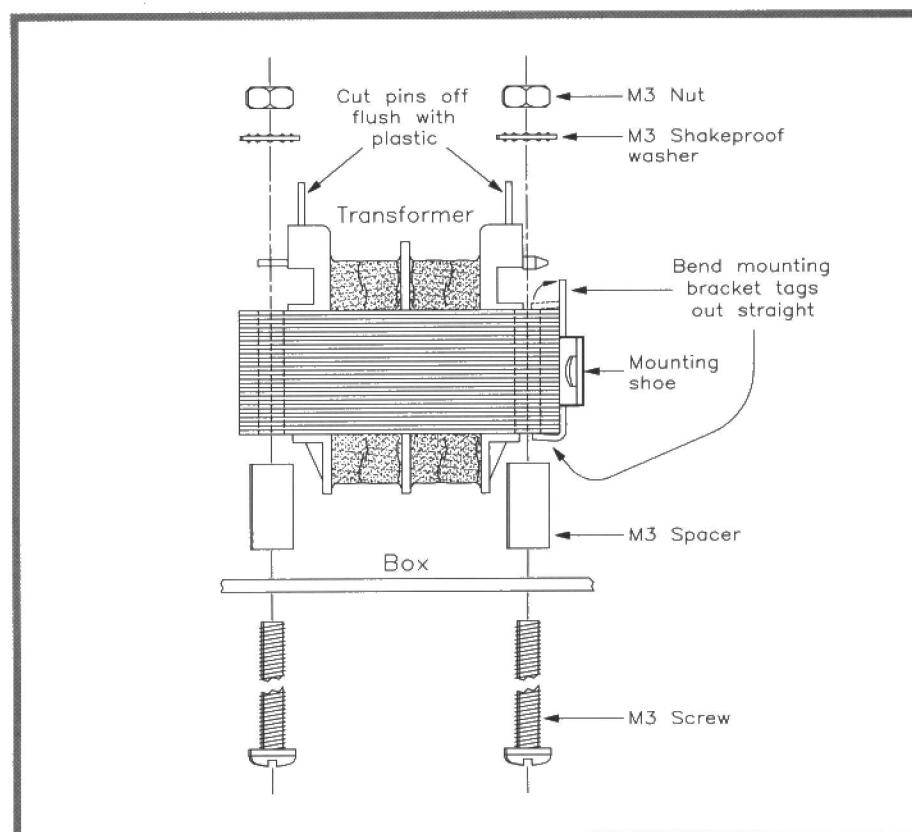

Figure 7. Fitting the mains transformer.
6. Fit the transformer to the chassis, using the two sets of 35mm M3 screws, 12mm spacers, shakeproof washers and nuts, as shown in Figure 7. If the supplied transformer is fitted with a mounting bracket, bend the tags away from the fixing hole (on either side of the transformer) to enable the hardware to be flush-mounted against its laminations. When the transformer has been fitted, cut off the solder tags that now point vertically, flush with the plastic housing. This is done to prevent problems caused by terminals short-circuiting via the top of the case, when this is fitted.